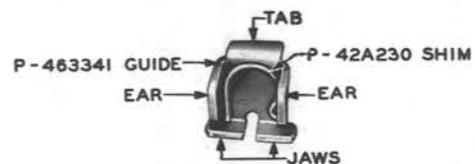

Fig. 10 – Position of Shim When Inserted in Guide
3.25 Hold the ears of the guide between the thumb and middle finger with the tab of the guide at the top and toward the hand. With the other hand, hold the hooked leg of P-42A230 shim between the thumb and middle finger with the closed portion at the top. Insert the long leg of the shim so that it is positioned in the corner formed by one of the ears and the back portion of the guide. The end of the long leg should rest on one of the jaws. Position the hooked portion of the other leg so that it rests on the rounded edge of the other ear. *Do not attempt to push the hooked portion over the rounded edge of the ear at this time.* With the index finger of the hand holding the guide, hold the shim in this position to prevent it snapping out of the guide. With the 3-inch C screwdriver, push the hooked portion of the leg over the rounded edge of the ear until this leg is against the back portion of the guide. Check that both legs of the shim rest on the back portion of the guide and the shim is in position as shown in Fig. 10.